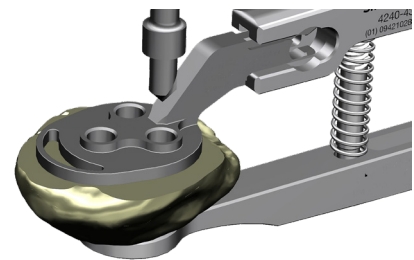

Figure 38
11. Select the appropriate diameter Patella Drill Guide and slide it onto the Patella Reamer Guide. Attach the Patella Reamer Guide Assembly to the reamed patella and tighten the reamer guide on the patella (Figure 38).
12. Use the Patella Peg Drill to drill the three pegs through the Patella Drill Guide until the drill bottoms out in the guide (Figure 38).